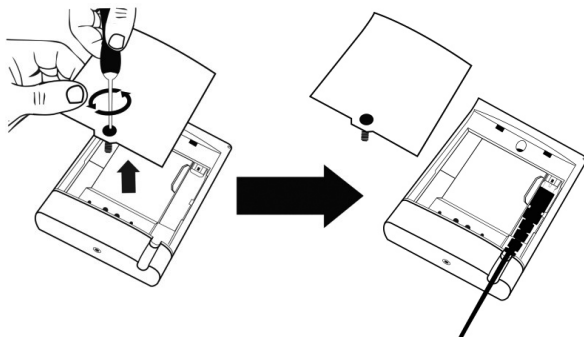

Figure 2: Removing the Back Cover for Connection of the Data Cable
6. Connect one end of the data cable to the device via the cable connector (Figure 2) and the other to the PC used to access the Webportal. The battery should be detached when the VitaloJAK is connected to the web portal.